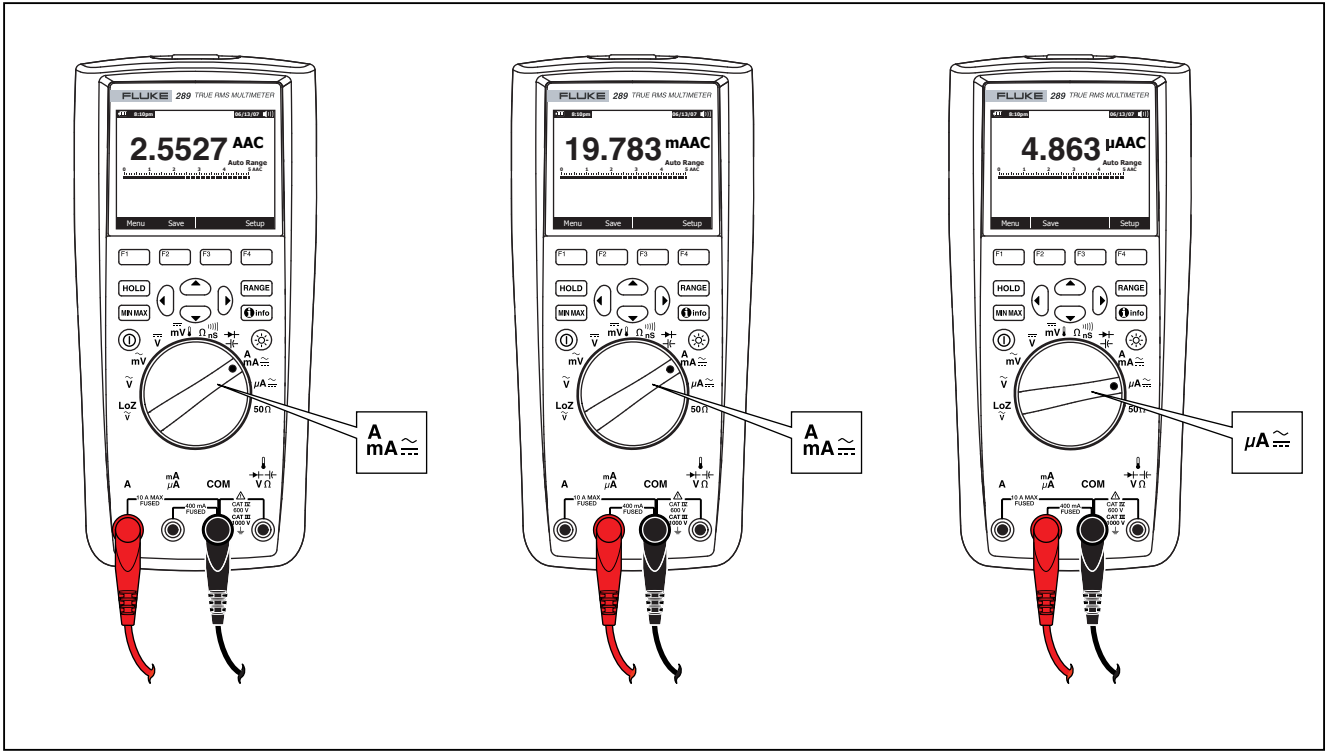

Figure 21. Current Measurement Setup
3. If you are using the A terminal, set the rotary switch to $\overline{\text{A}}$. If you are using the mA/μA terminal, set the rotary switch to $\overline{\mu\text{A}}$ for currents below 5000 μA (5 mA), or $\overline{\text{mA}}$ for currents above 5000 μA. See Figure 21 for test lead connections and function selection. Refer to the "Input Alert Feature" section for information on the alerts the Meter uses when leads are not used correctly for current measurements.